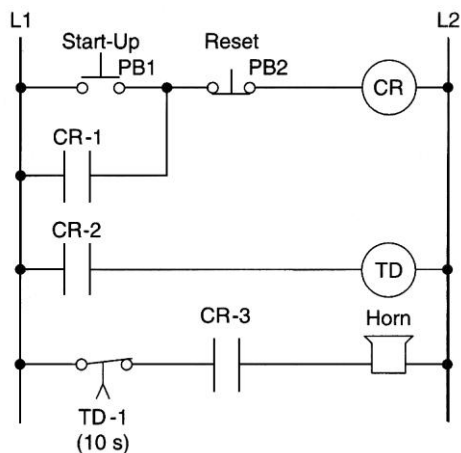

Figure 7-20 Hardwired start-up warning circuit for assignment 4.
4) Prepare an I/O connection diagram and ladder logic program to execute the hardwired start-up warning signal circuit shown in Figure 7-20. Enter the program into the PLC, and prove its operation.